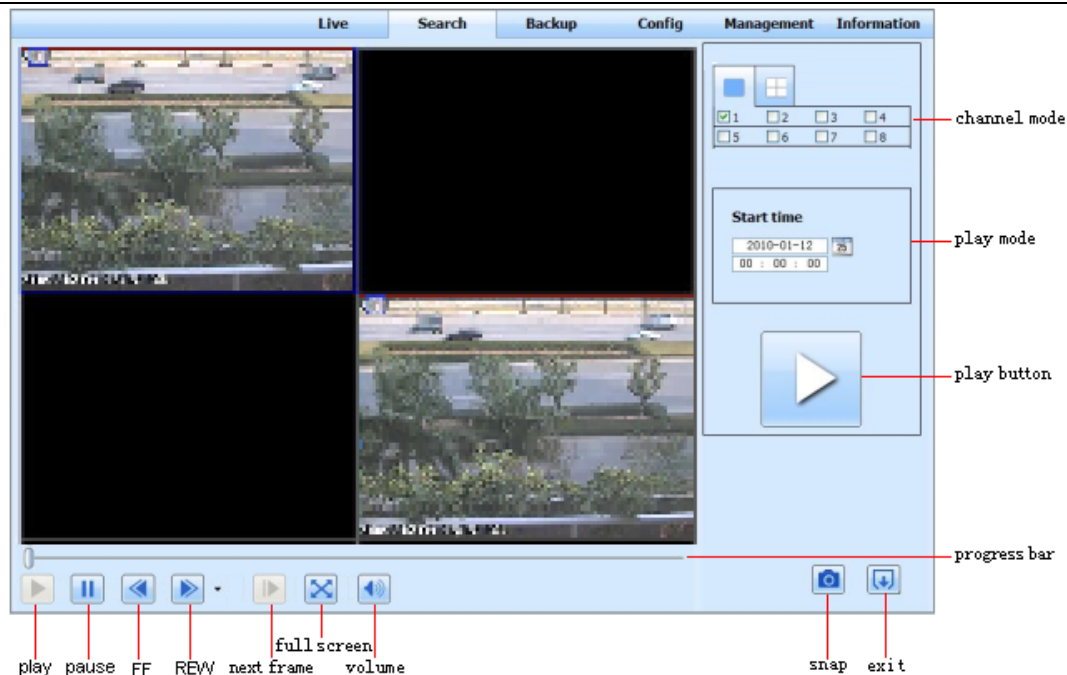

Fig 7.7 Time Search Playback
Step 2: Click “Search” button. The recorded data will be displayed in the data information list box. The highlighted date in area ② means there is recorded data. Click those data and select the channels in area ③.
Step 3: User can set the data playing time and display mode in area ① as required.
Step 5: Click the relevant buttons in the interface. User can do some operations such as: fast forward, pause, change channel mode, research, etc. Refer to Fig 7.7.